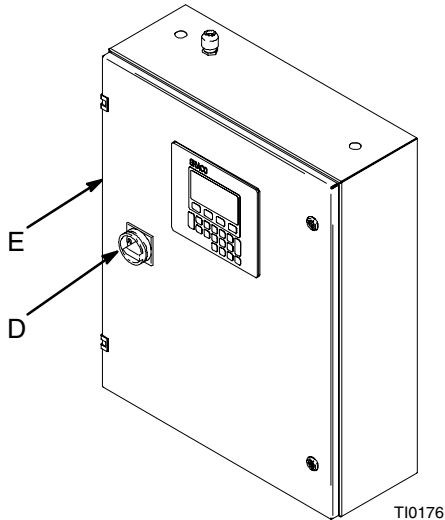
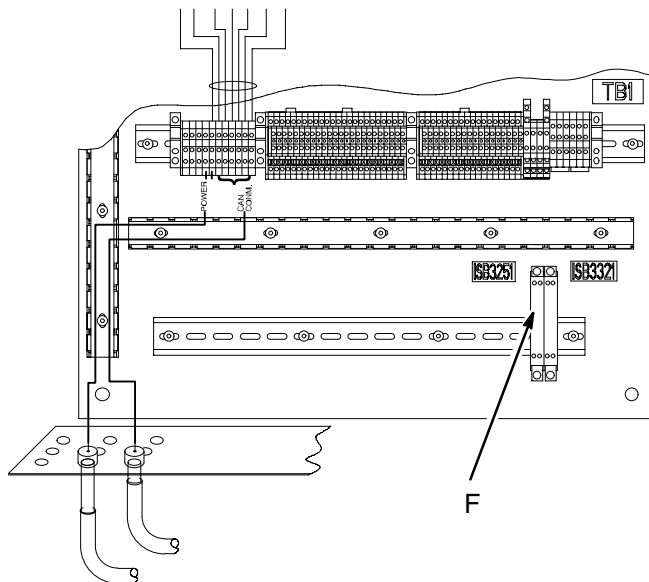
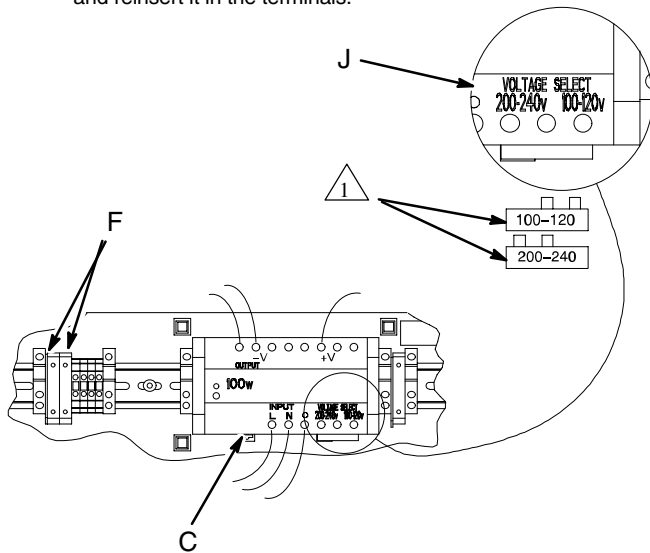

Fig. 11.3
Fig. 11.4
Fig. 11.6
1. Turn the PrecisionMix II 3K power switch (D) to off. See Fig. 11.3.
2. Open the controller door (E).
3. Remove the barrier cover (F) for the fuse being replaced. See Fig. 11.4.
5. Install a new fuse (part no. 115429) and re-install the barrier cover (F).
5. Pull down the clips (C), holding the power supply in place. Remove the power supply from the din rail.
7. Locate the power supply jumper (J). See Fig. 11.6.
8. Make sure the jumper (J) is installed for the correct voltage (100–120 or 200–240 Vac). The voltage setting is visible on the front of the jumper.
4. Loosen the terminal screws and remove the jumper (J). See Fig. 11.6.
4. Remove the two fuses from the fuse holders (F). See Fig. 11.6. Install the two new fuses.